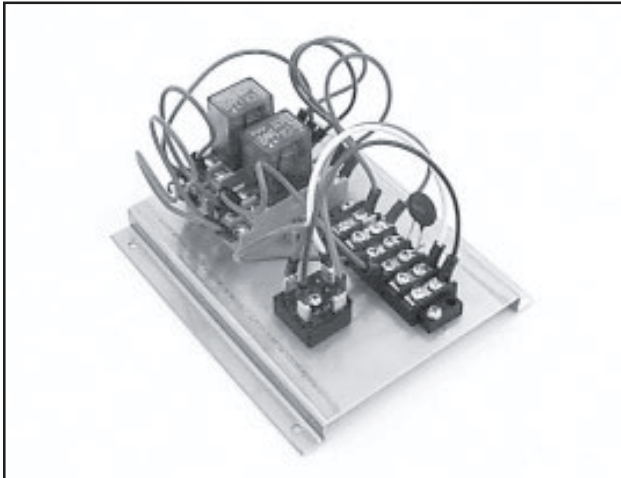

Figure 34. Instrument Plate Assembly
In the Elite Lift Table, most problems with electronics requires the replacement of the instrument plate assembly (figure 34). The individual components on this assembly are not field replaceable - the entire assembly must be replaced as a single package.
1. Set the new instrument plate assembly into the utility box (Figure 34).